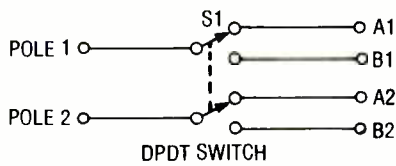

Fig. 1. The A/B switch is very similar to a standard double-pole, double-throw switch, like the one shown here.
**Circuit Operation.** The A/B Switch circuit is the electronic equivalent of the double-pole double-throw switch shown in Fig. 1. Refer back to that figure (in particular the labels on the poles and contacts) from time to time as we discuss the actual A/B Switch circuit.
as the poles and contacts in Fig. 1. The circuit's active components are nothing more than a pair of diodes that steer current through the inputs of four special optocouplers. The optocouplers are specially designed for telecom (standard slang for "telecommunications") applications and conform to the RS-232C standard.